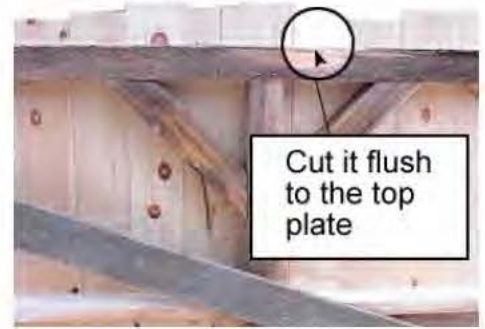

Figure 1
Step 1. Install rear wall siding. If you are working from a kit, the siding is pre-cut to length and should sit flush with the top plate beam. We use 1x12 rough cut pine boards. If you are using your own material, it is possible to run the siding wild along the top and cut in place. Figure 1.
Step 4. Trim the siding flush with the top plate as in Figure 1.